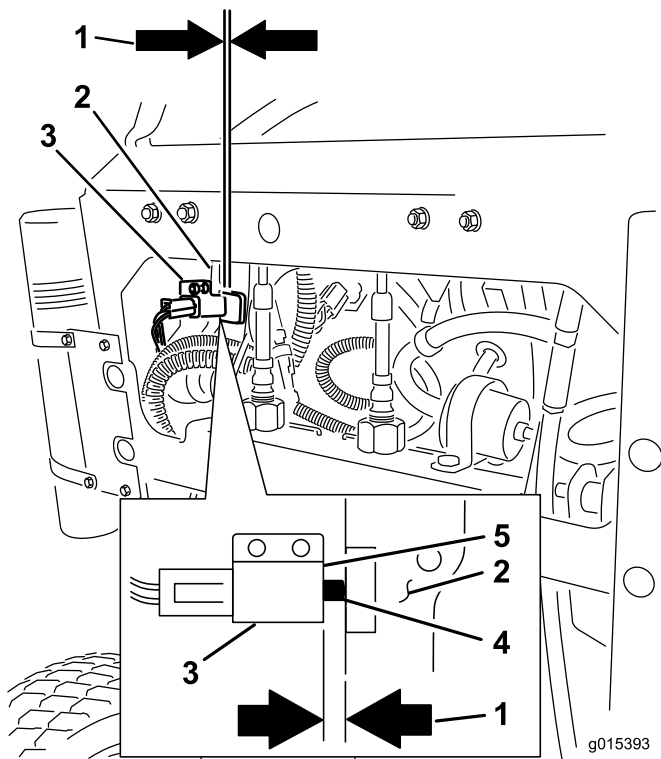

Figure 66
12. Check the gap between the brake lever and the face of the switch as shown in Figure 66. The gap needs to be an 1/8 inch (3mm) with the brake **engaged**.